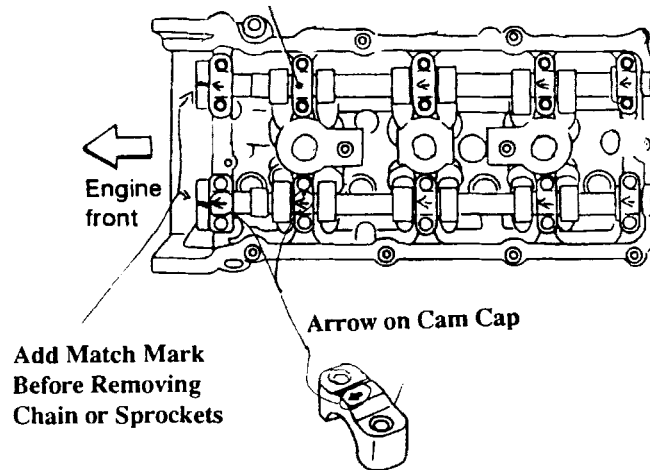

Figure 3
4. Verify the engine is on TDC #1 cylinder, Compression Stroke. Using a **fine point indelible marker**, carefully scribe a match mark on each cam flange, in line with the arrow on the front cam journal cap. It is important that this mark will not be removed even when wet by oil (Figure 3).
3. Verify that the match marks you scribed on the RH **cam front flange** align with the arrows on the front cam caps. Adjust cam sprocket to chain alignment, as necessary, to ensure that the match marks align (See Figure 3).